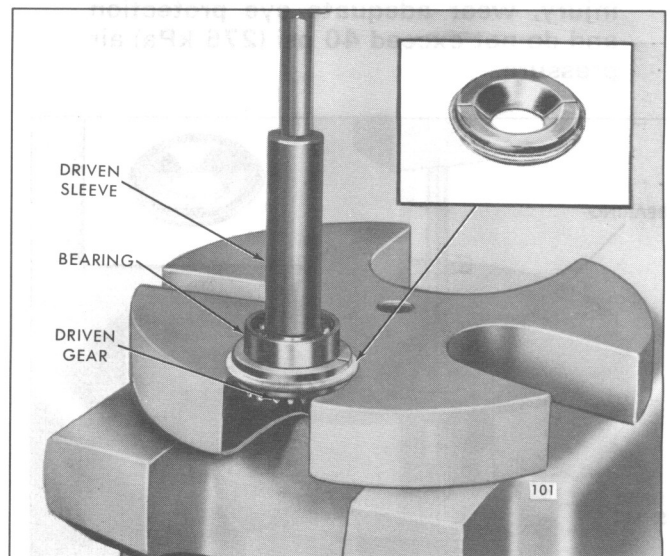

Fig. 12 – Removing Driven Sleeve and Bearing from Driven Gear
- b. Support the driven gear assembly and remover on the bed of an arbor press (Fig. 12). Place a brass rod inside the sleeve, against the end of the driven gear, then press the driven gear from the sleeve and bearing. Catch the driven gear by hand when pressed from the bearing.